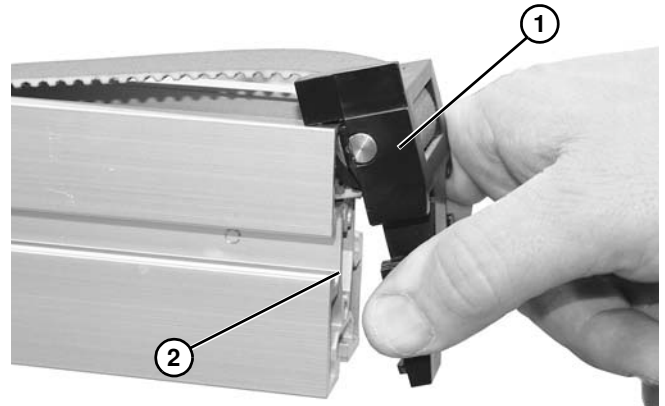

Figure 23
4. Remove the end cap (Figure 23, item 1) from the conveyor (Figure 23, item 2) on both ends.